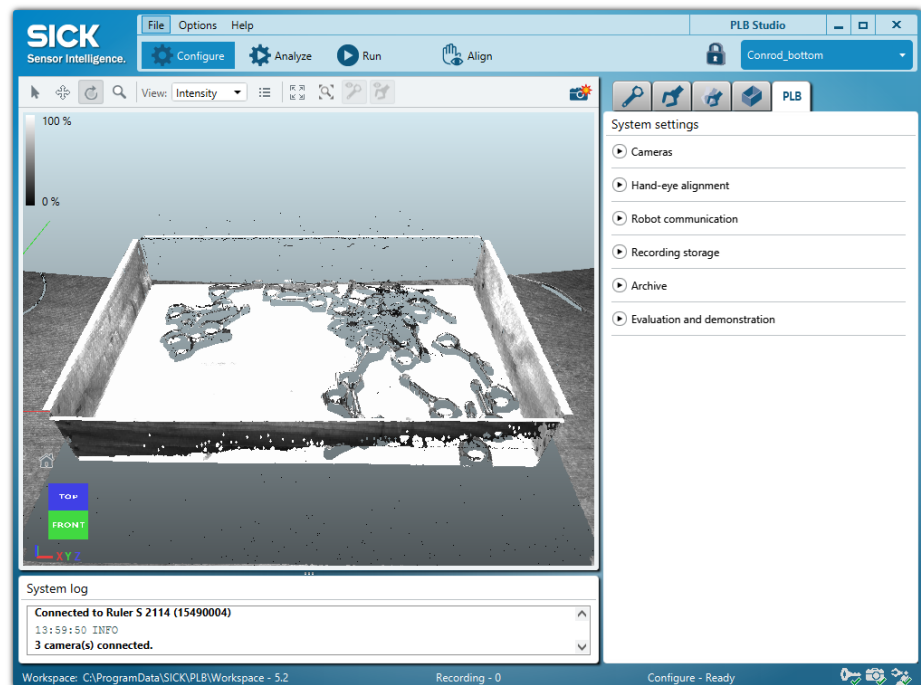

Figure 36: Displaying the result of test image acquisition in PLB Studio
- The image is displayed in PLB Studio, see figure 36.